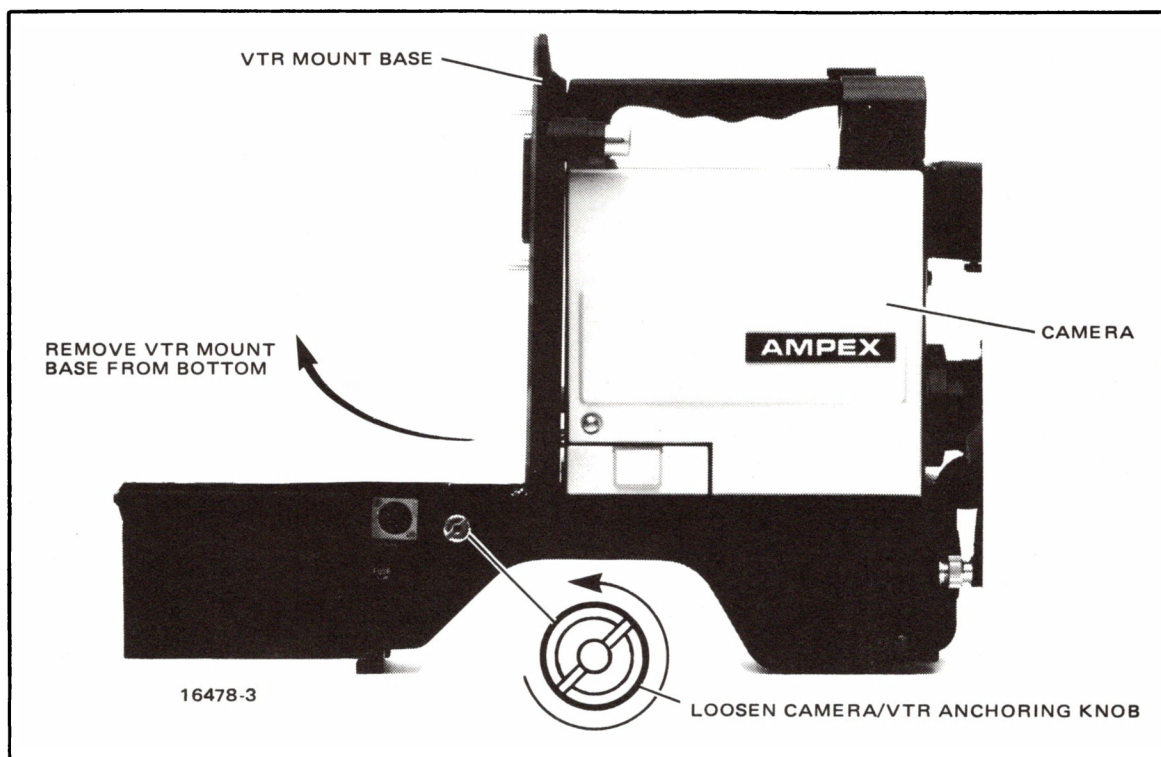

Figure 2-1. Removing VTR Mount Base from Camera
- STEP 1 Loosen camera/VTR anchoring knob (see Figure 2-1).
- STEP 2 Remove VTR mount base from camera by tilting the bottom portion in the direction shown by the arrow in Figure 2-1.